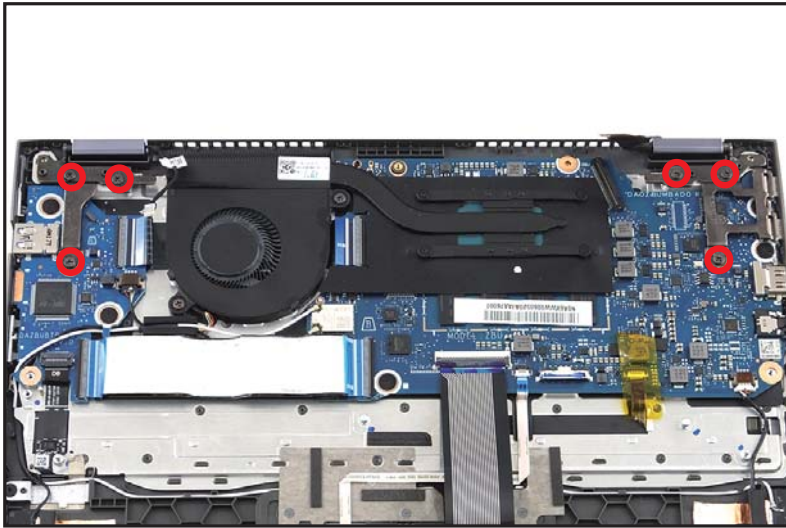

Figure 1-19. LCD Module Removal
4. Remove six (6) screws securing the LCD hinges in place (Figure 1-19).